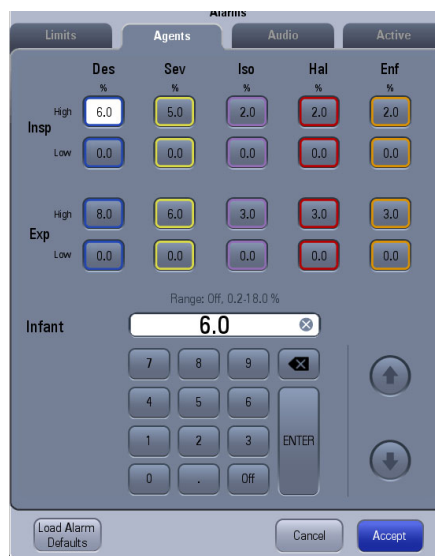

FIGURE 8-12 Agents Tab
2. Select the **Limits** tab (see FIGURE 6-8) or **Agents** tab (see FIGURE 8-12).